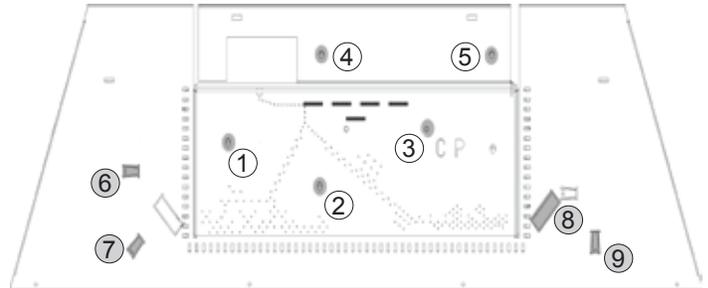

Figure 2
2. Remove the burner cover using a screwdriver. Push up pins 6, 7, 8 and 9 as shown in **Figure 2**.
STEP 1. Push up pins 6, 7, 8 and 9 as shown **Figure 2**. Replace burner cover inside fireplace.